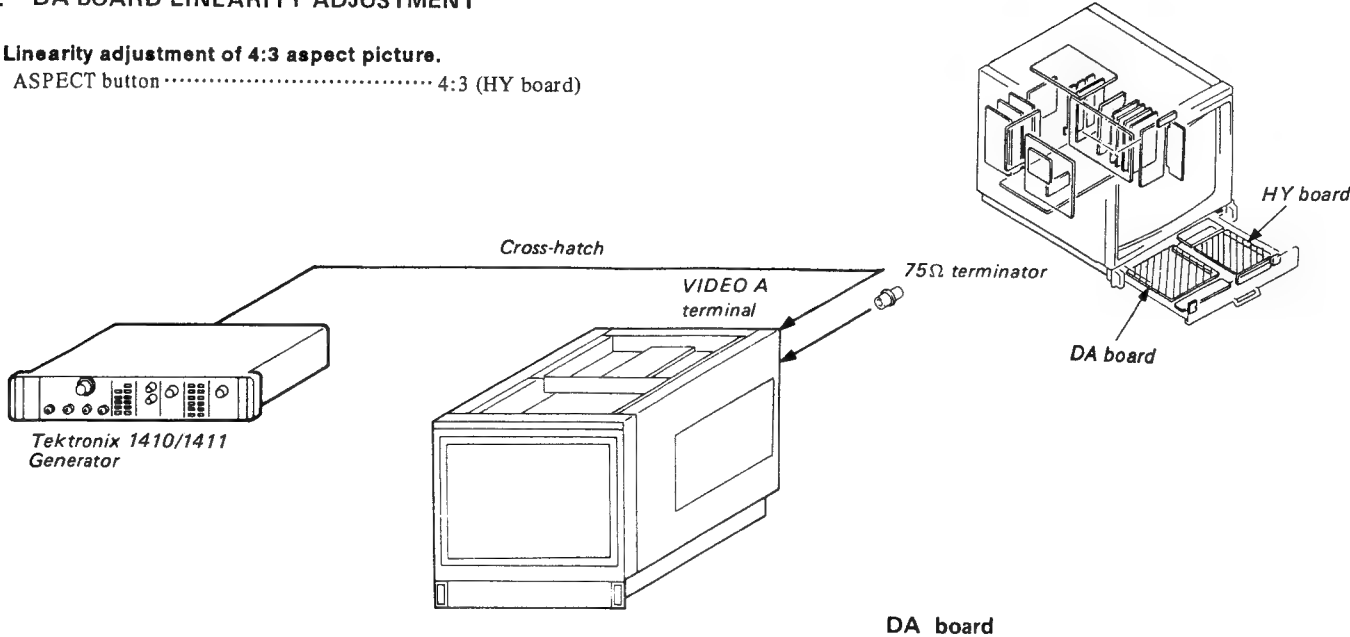

Fig. 28-1
3. Adjust RV18 on the DA board so that output waveform is 12.0Vp-p as shown in Fig. 28-1.